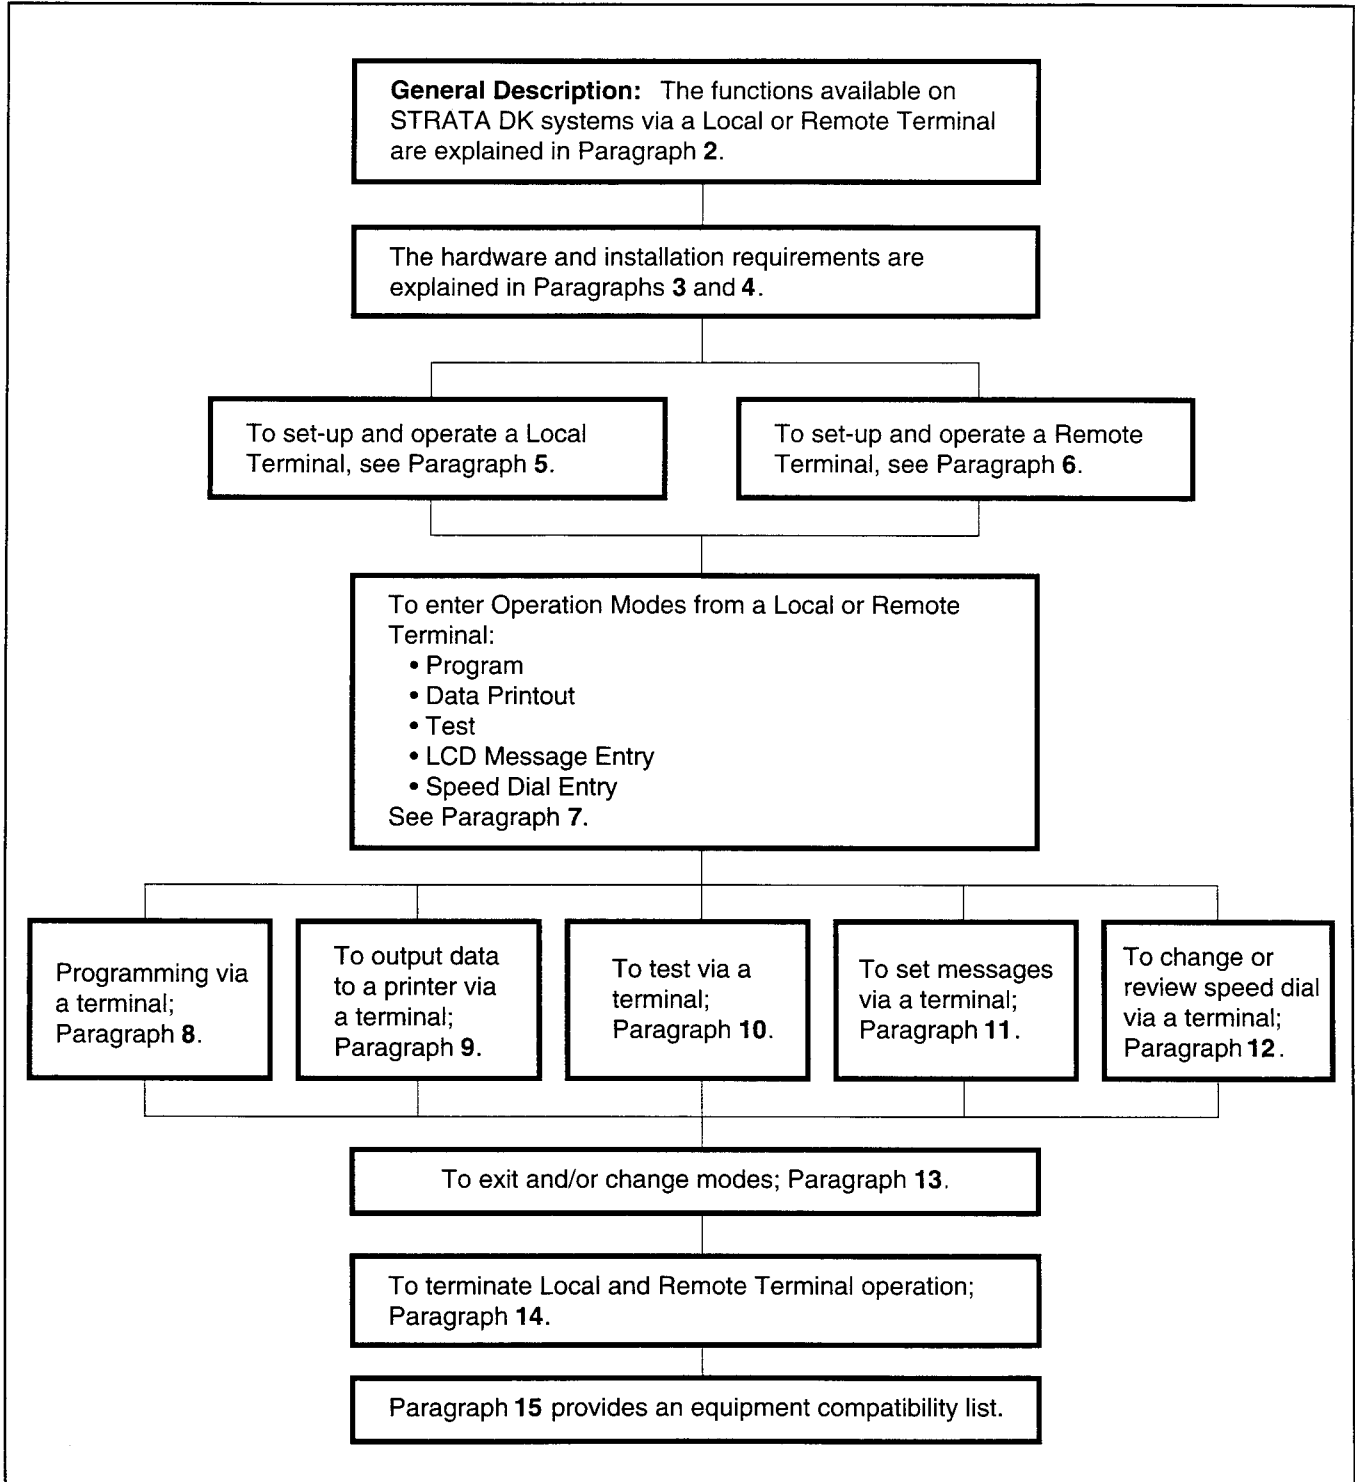

FIGURE 1
1.01 Figure 1 is provided as a quick reference aid in using this section.